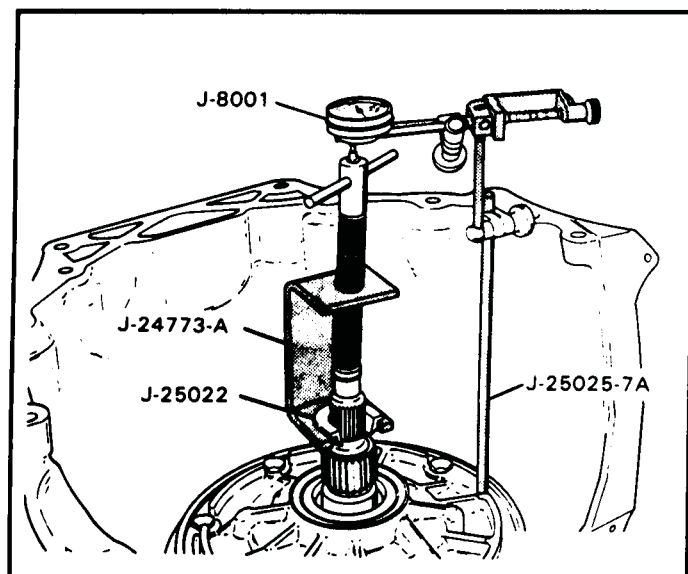

Figure 137
1. Remove one oil pump to case bolt and install J-25025-7A dial indicator post, as shown in Figure 137.
2. Install turbine shaft lifting tool, & dial indicator as shown in Figure 137.
8. Remove the dial indicator and dial indicator post as shown in Figure 137.